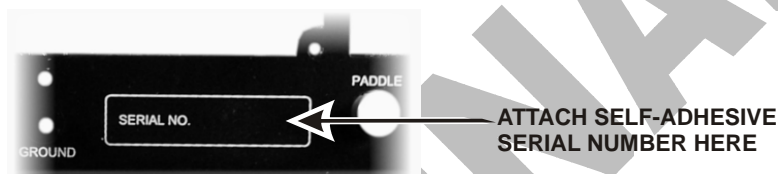

Figure 28. Attaching Serial Number.
- Peel the backing from the self-adhesive serial number label and attach it to the back panel as shown in Figure 28.